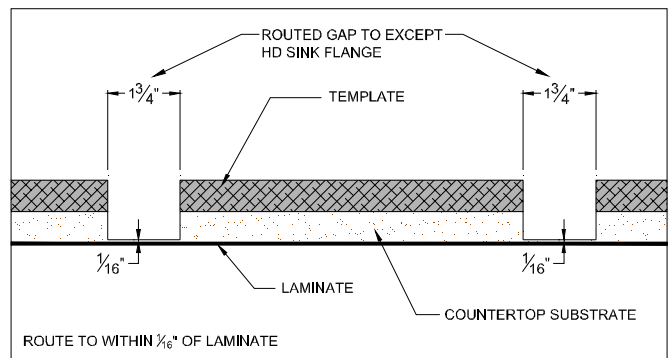

Figure 9C
- Index a 3¼ HP or 2½ HP plunge router with a 1¼" x 1" top bearing flush trim router bit to remove the substrate. (FIG. 9C)